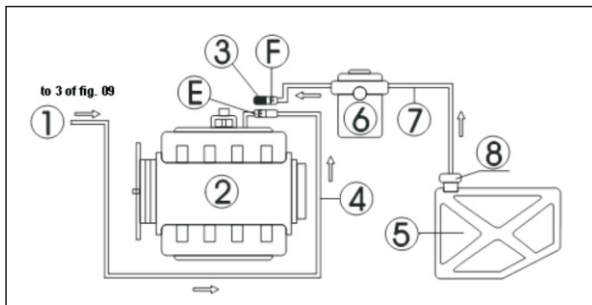

Fig.07
The hose line connection of the engine without return hose is shown as in Fig.07.
- Disconnect the fuel supply hoses (E, F) of engine fuel system (wrap the connector when disconnecting the connector), and then choose a proper connector and connect it to the E end. Reconnect the fuel outlet hose of the unit well and make the fuel return hose hanging. See Fig.07.
- Stop the other end of the disconnected end (F) with a proper stopper, (use when the fuel pump has the fuel return function only) or remove the fuse of fuel pump or disconnect the power cable of fuel pump.